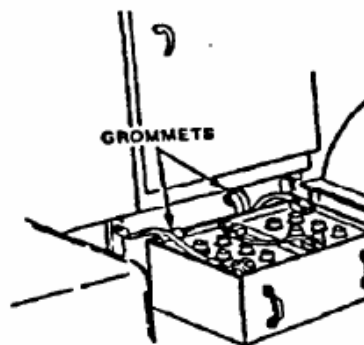

Figure 3-16
- (p) Complete battery installation. Check that rubber grommets are in place around cables to prevent cables from being cut or otherwise damaged in holes. Install battery terminal lug covers, (Item 5, **Appx. C**) over battery posts to prevent battery cover-to-terminal lug contact (See **Figure 3-16**).